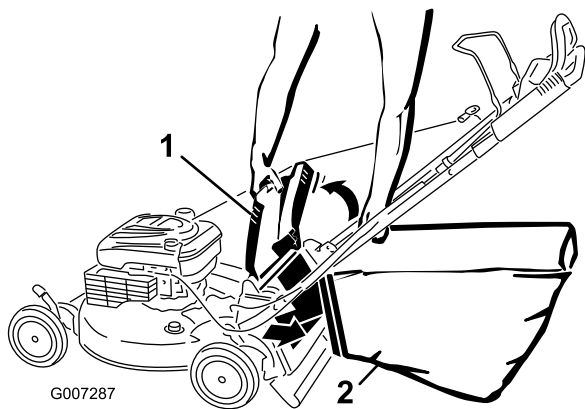

Figure 23
4. Hang the upper front edge of the bag on the notches (Figure 23).